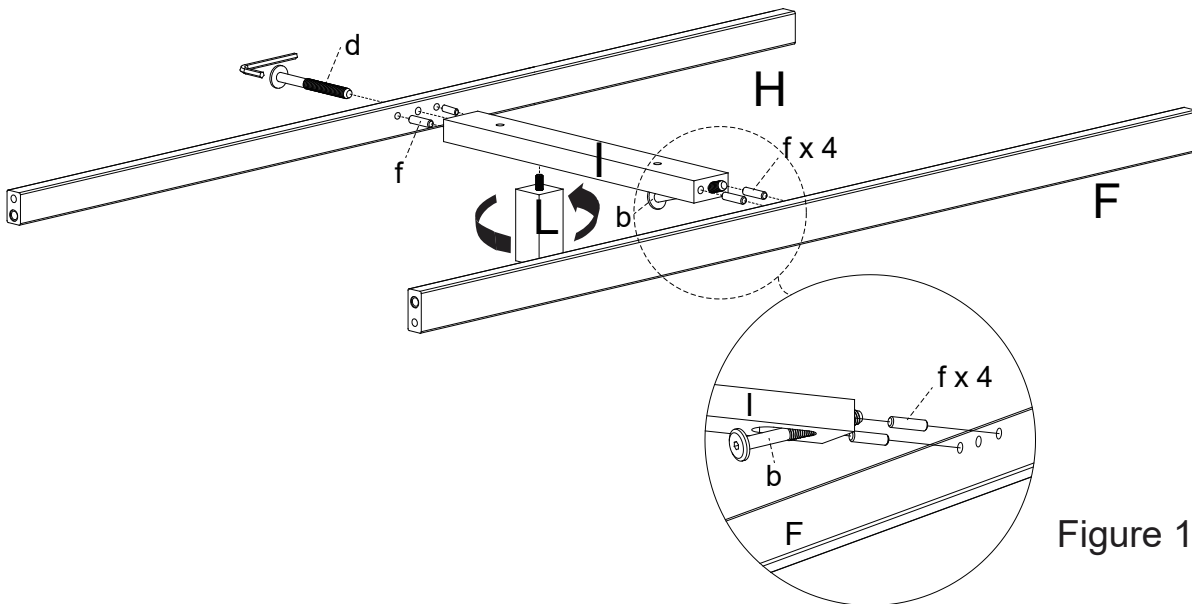

Figure 1
- ① Assembly the support rail (I) and support legs (L) .
Assembly the support rail (I) and front-bottom rail (F) and rear-bottom rail (H) , by using 4 wood dowels and 1 Bolt (d)&1Bolt(b). as Figure 1.
1. Working on a padded flat surface, attach Drawer Sides (R1&R2) to Drawer Back (R3) with Philips Head Screw. *Figure 1*
①